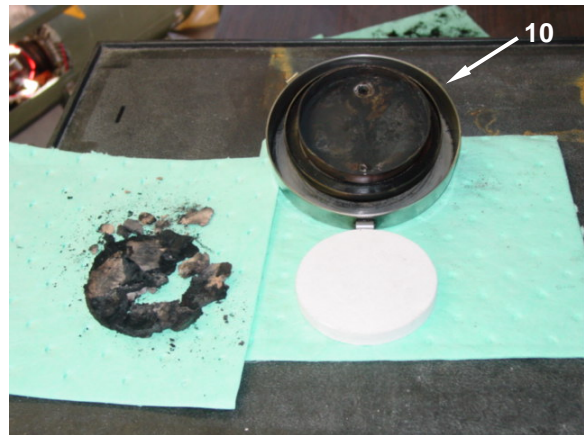

Figure 9. Replace the Burner Assembly Wick - Continued.
8. Use the wrench to pry the wick (**Figure 9, Item 13**) up and remove it from the burner assembly cover (**Figure 9, Item 10**). Ensure that all of the wick has been removed.
9. Wipe the burner assembly cover (**Figure 9, Item 10**) clean of loose carbon deposits and remaining wick material.